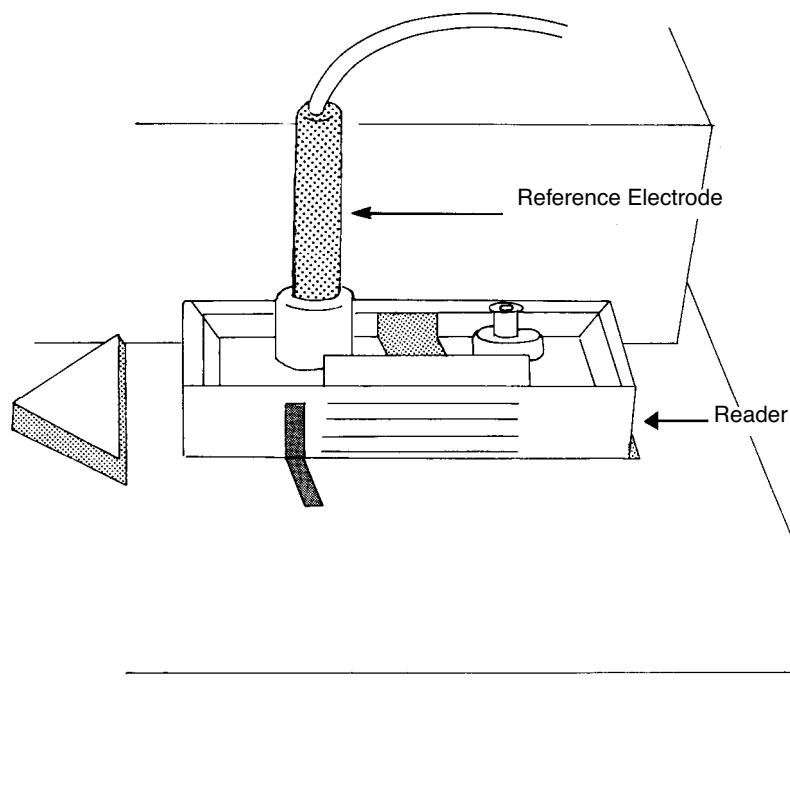

Figure 3-5: Reference Electrode Inserted Into the Reader
- If the PVC tube has not been used before, the electrode should stand in the storage tube (See also: "Maintaining and Storing the Reference Electrode" on page 3-23) or Reader (Figure 3-5), for at least one hour.
- a. Insert it into the raised opening on the left top of the Reader, not the white Luer Lock fitting, (Figure 3-5).